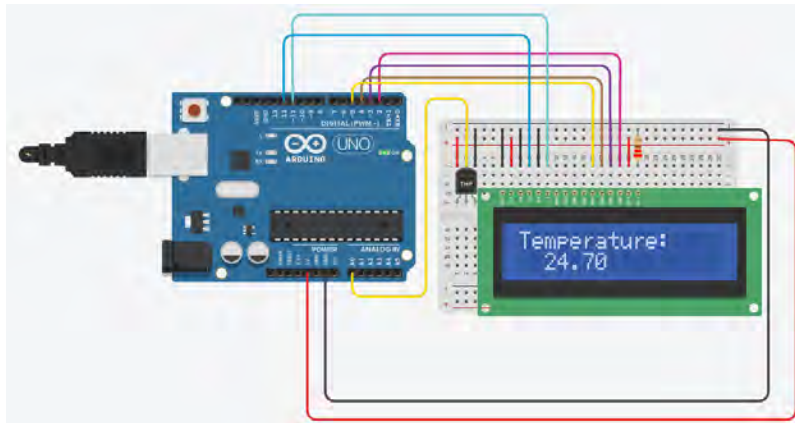

Figure 13.6: Printing Temperature to LCD
17. Set your workspace as you shown in Figure 13.6. The resistor value is  $220\Omega$ . Be careful about the connection locations.